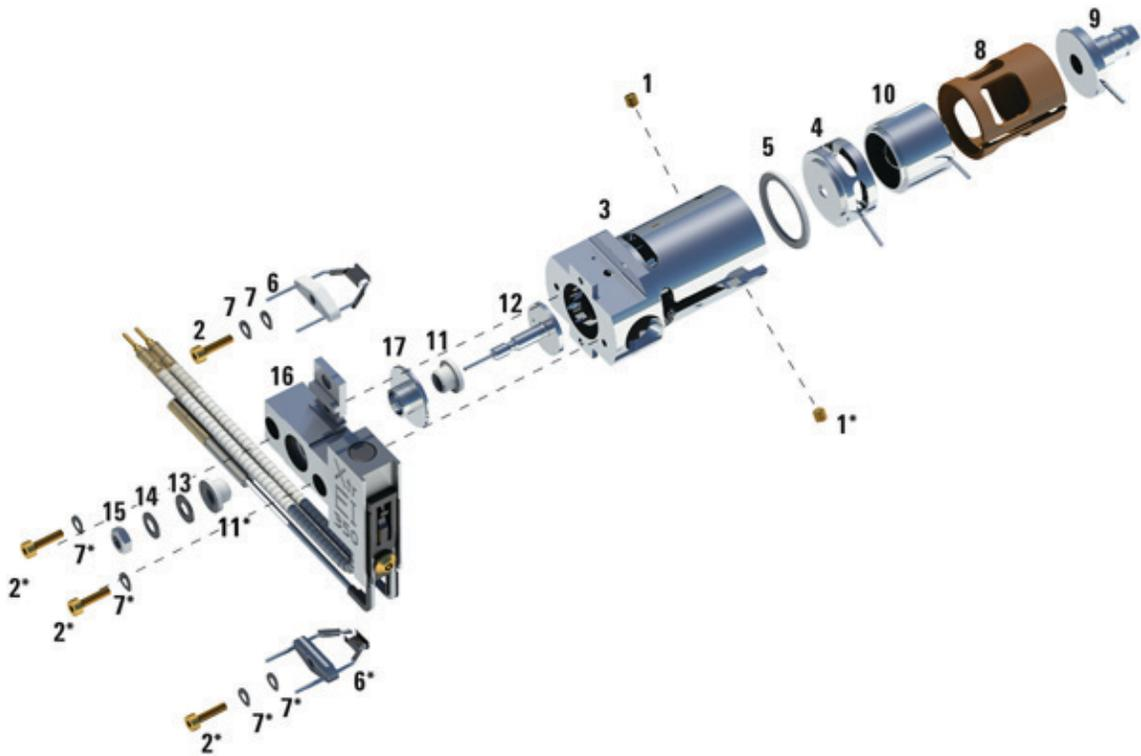

Figure 48. Assembling the EI XTR source
Refer to the exploded parts view **Figure 48** and EI XTR parts list **Table 21** on page 155 while using this procedure.
- 3 Insert the entrance lens and ion focus lens into the insulator in the order shown in **Figure 48** on page 155.
Table 21 Parts list for EI XTR source (Figure 48)
Table 21 Parts list for EI XTR source (Figure 48) (continued)